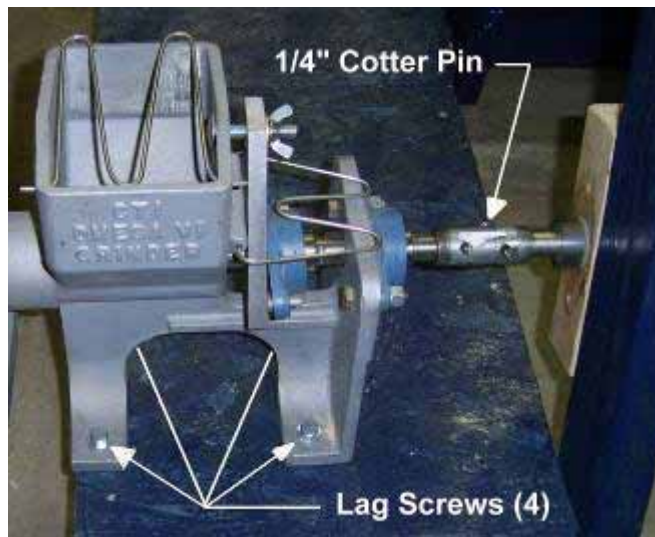

Figure 7: Omega VI Shaft to Coupling
4. attaching the grinder shaft to the coupling (See Figure 7).
1. Align grinder shaft with the pedal shaft coupling (See Figure 7).